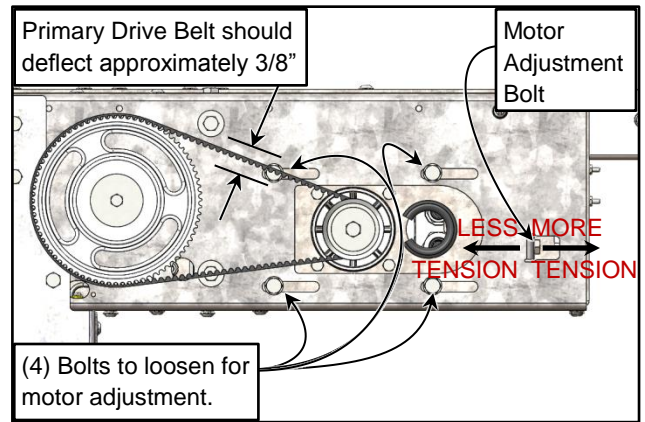

Figure 51
4. Loosen the four hex head screws securing the drive motor assembly to the drive side head console assembly. (See Figure 51)
5. Using the Motor Adjustment Bolt, adjust the primary drive belt tension by sliding the drive motor assembly towards or away from the drive shaft pulley to respectively decrease or increase the belt tension. (See Figure 51)